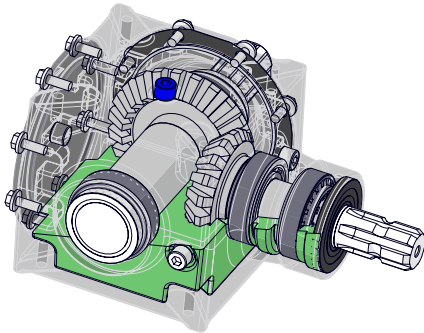
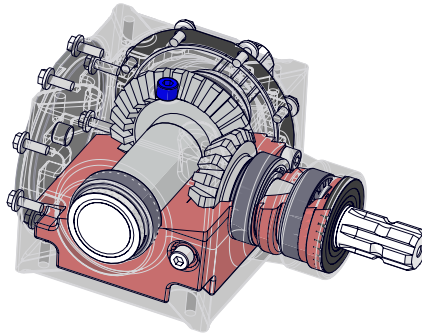

Figure 1
Figure 2
The drawing shows the proper way to mount the wheels using Budd-type nuts. The wheels supplied with your grain cart have straight holes and the Budd nuts will be mounted according to Figure 1. Wheels that are improperly installed on the grain cart, resulting in product failure, will nullify warranty and shift the burden of liability to the owner/operator. **We recommend you inspect your wheel nuts to make sure they are properly installed. Also, check the wheel nuts on a regular basis to ensure they are tight.**
**90 DEGREE REAR GEARBOXES:** Gearbox lubricant has been added to the gearboxes during final assembly. Recheck the lubricant level before initial operation of the grain cart, then periodically according to use. For the gearbox on the left while looking at the rear of the cart, the fluid level should be between the bottom and halfway point of the 2" output shaft that bisects the gearbox. The recommended fluid level range is pictured in Figure 1 and Figure 2 below. The minimum level is pictured in green and the maximum level is pictured in red. A pressure relief plug is in the center of the top of the gearbox mount plate. To check the fluid level, remove the vented inspection plug and view the fluid level from above. When filled to the maximum level (shown in red), the gearbox should have 80 ounces of SAE 80W-90 lubricant. Change the oil annually before use.